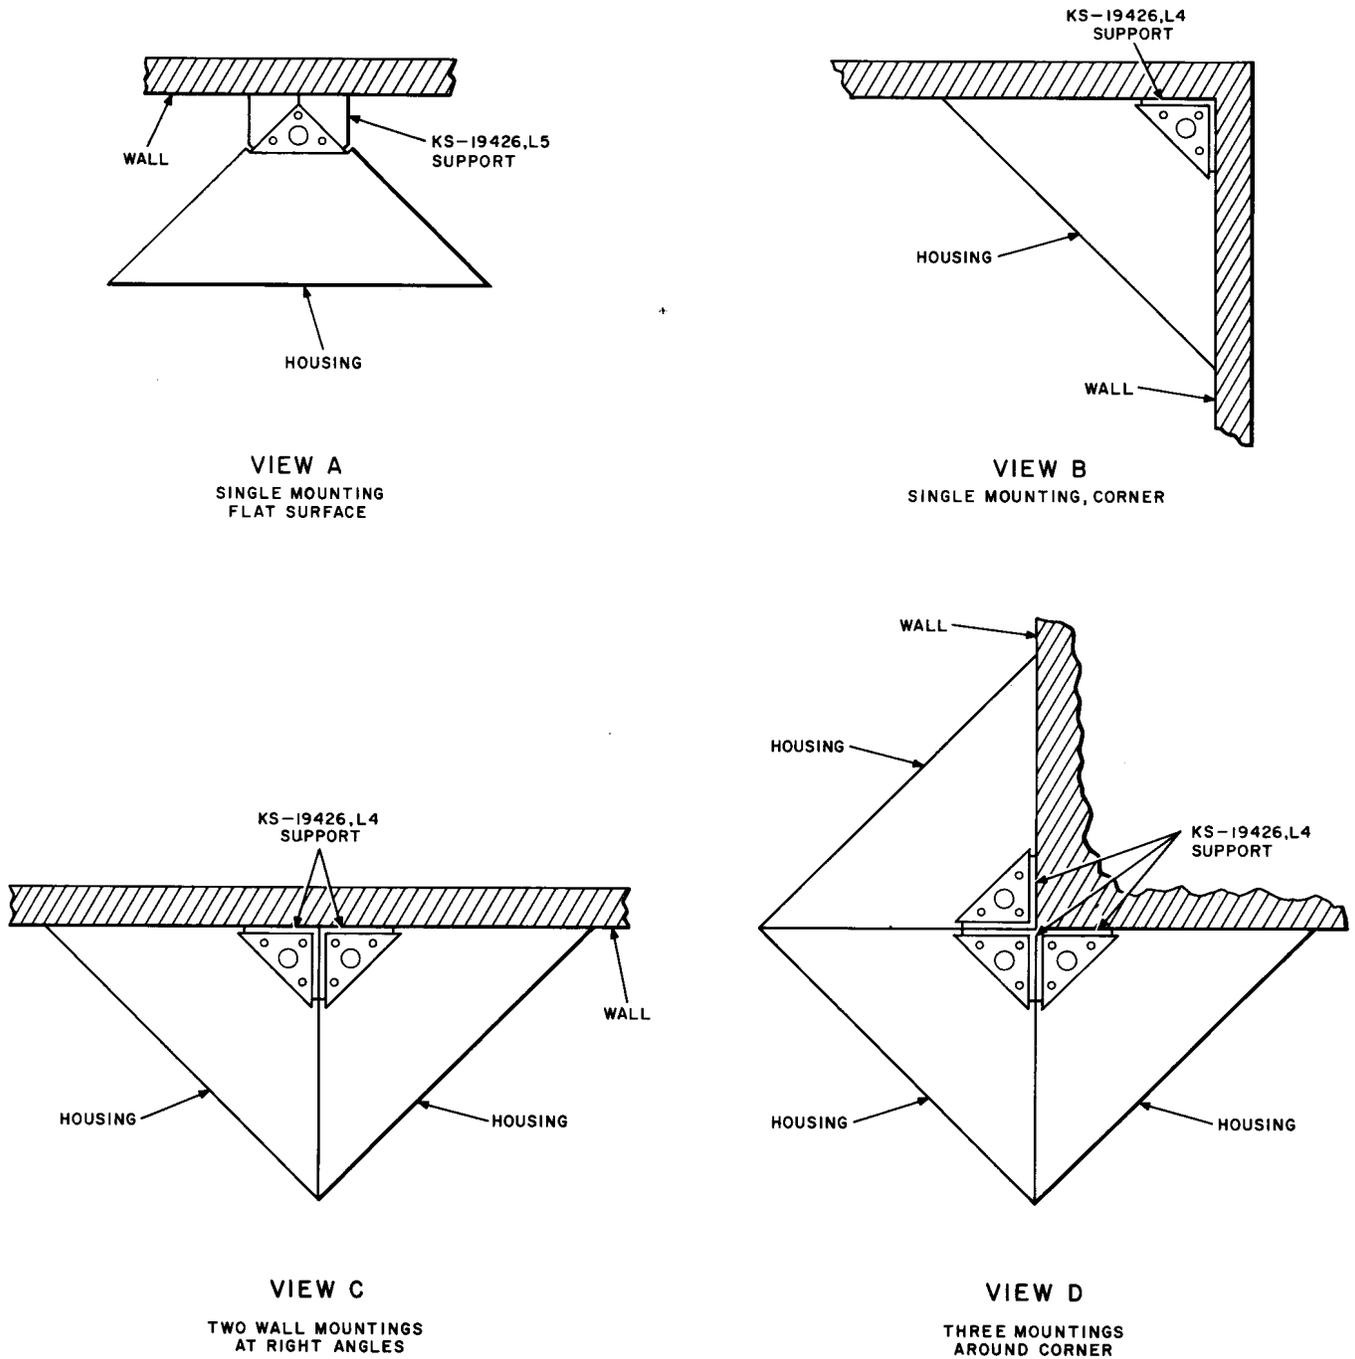

Fig. 11—Various Arrangements for Wall Mountings
Note: KS-19426, List 4 support may be installed in a corner (View B, Fig. 11), at
right angles (View C, Fig. 11), or around a corner (View D, Fig. 11).
- 2.28 When installing two mountings adjacent to each other (View C, Fig. 11), secure two supports together using six 1/4-20 by 1/2 hex head bolts.
- 2.29 To install a mounting around a corner (View D, Fig. 11), secure the center support to the adjacent supports using twelve 1/4-20 by 1/2 hex head bolts.
Note: KS-19426, List 5 support is used to install a wall mounting on a flat surface (View A, Fig. 11).